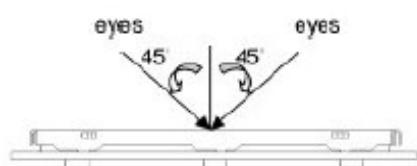

Fig. 1
- (1). The test be under 20W×2 fluorescent light ' and distance of view must be at 30 cm.
- (2). Standard of inspection : (Unit : mm)
- (3). The test direction is base on about around 45° of vertical line. (Fig. 1)